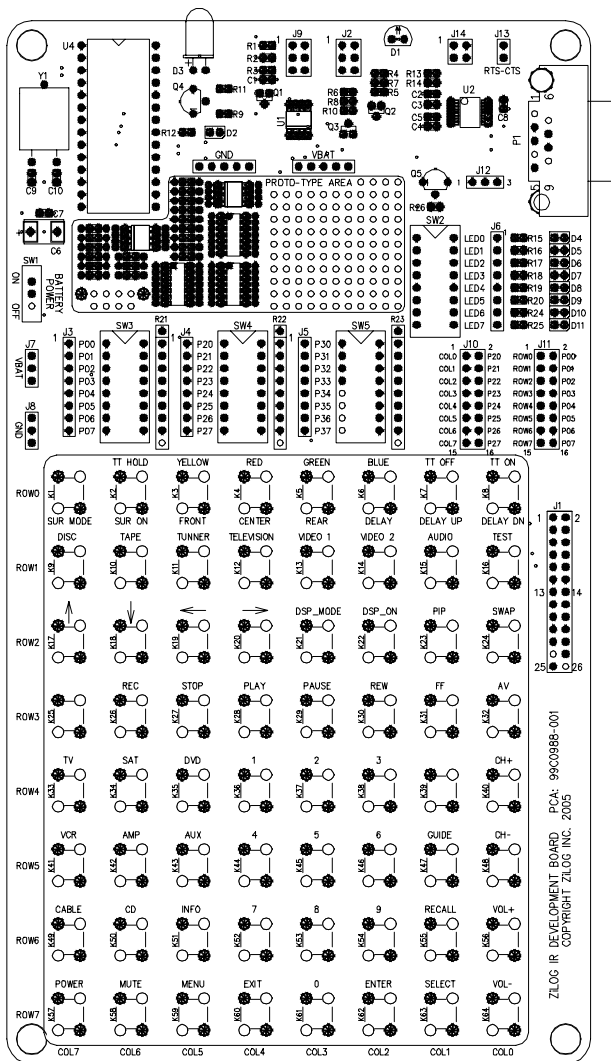

Figure 1. The ZiLOG Crimzon™ Development Board Accessory Kit
Thank you for purchasing the ZiLOG ZLP12800100ZACG Crimzon™ Development Board Accessory Kit (Figure 1). The Crimzon™ Development Board Accessory Kit is designed for use as a target with the Crimzon™ In-Circuit Emulator (ZLP128ICE01ZEMG). The kit is powered by two 1.5V AAA batteries.
1. Install the two (2) AAA batteries in the battery holder on the bottom of the development board. When installing the batteries, ensure that the batteries are fully seated in the battery holder by rotating each battery after snapping it into place.
2. Set the On-Off switch (Figure 1) to the ON position.